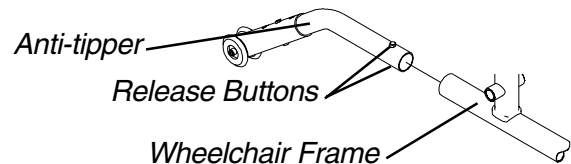

FIGURE 2 - INSTALLING THE ANTI-TIPPERS
1. Depress the release buttons and insert the anti-tippers with the anti-tipper wheels pointing toward the ground/floor into the wheelchair frame tubing as shown in FIGURE 2.